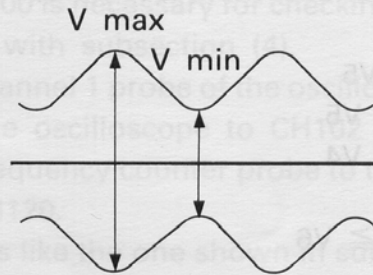

Fig. 8-10
Modulation is the difference between a maximum amplitude and a minimum amplitude on the waveform. (See Fig. 8-10.) Press the ESC key to return to the menu.
- Write the 1F; press the 1 key. Then measure the V max. shown in Fig. 8-10 (V_{1F}).
- Write the 2F; press the 2 key. Then measure the V max. shown in Fig. 8-10 (V_{2F}).